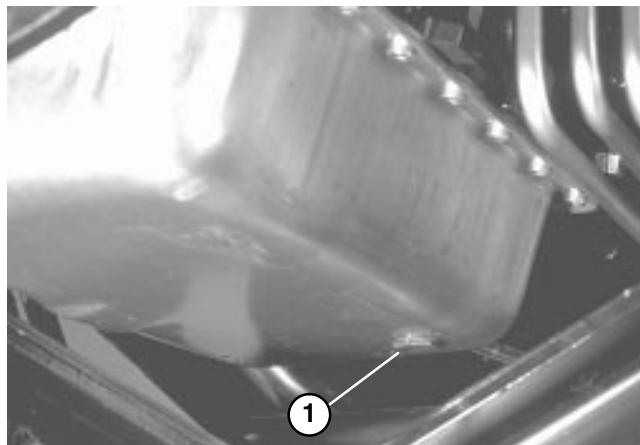

Figure 44
### ENGINE OIL AND FILTER (Fig. 44–45)
1. Remove drain plug (Fig. 44) and let oil flow into drain pan. When oil stops, install drain plug and new plug seal, Part No. 74–7850.